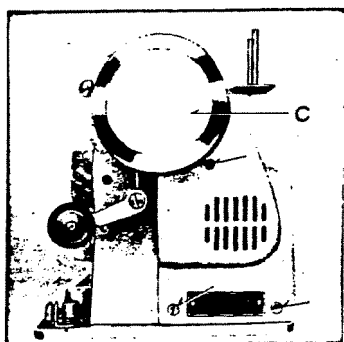

Fig. 37
1. Remove screws holding rear cover Fig. 37.
2. Remove rear cover Fig. 37.